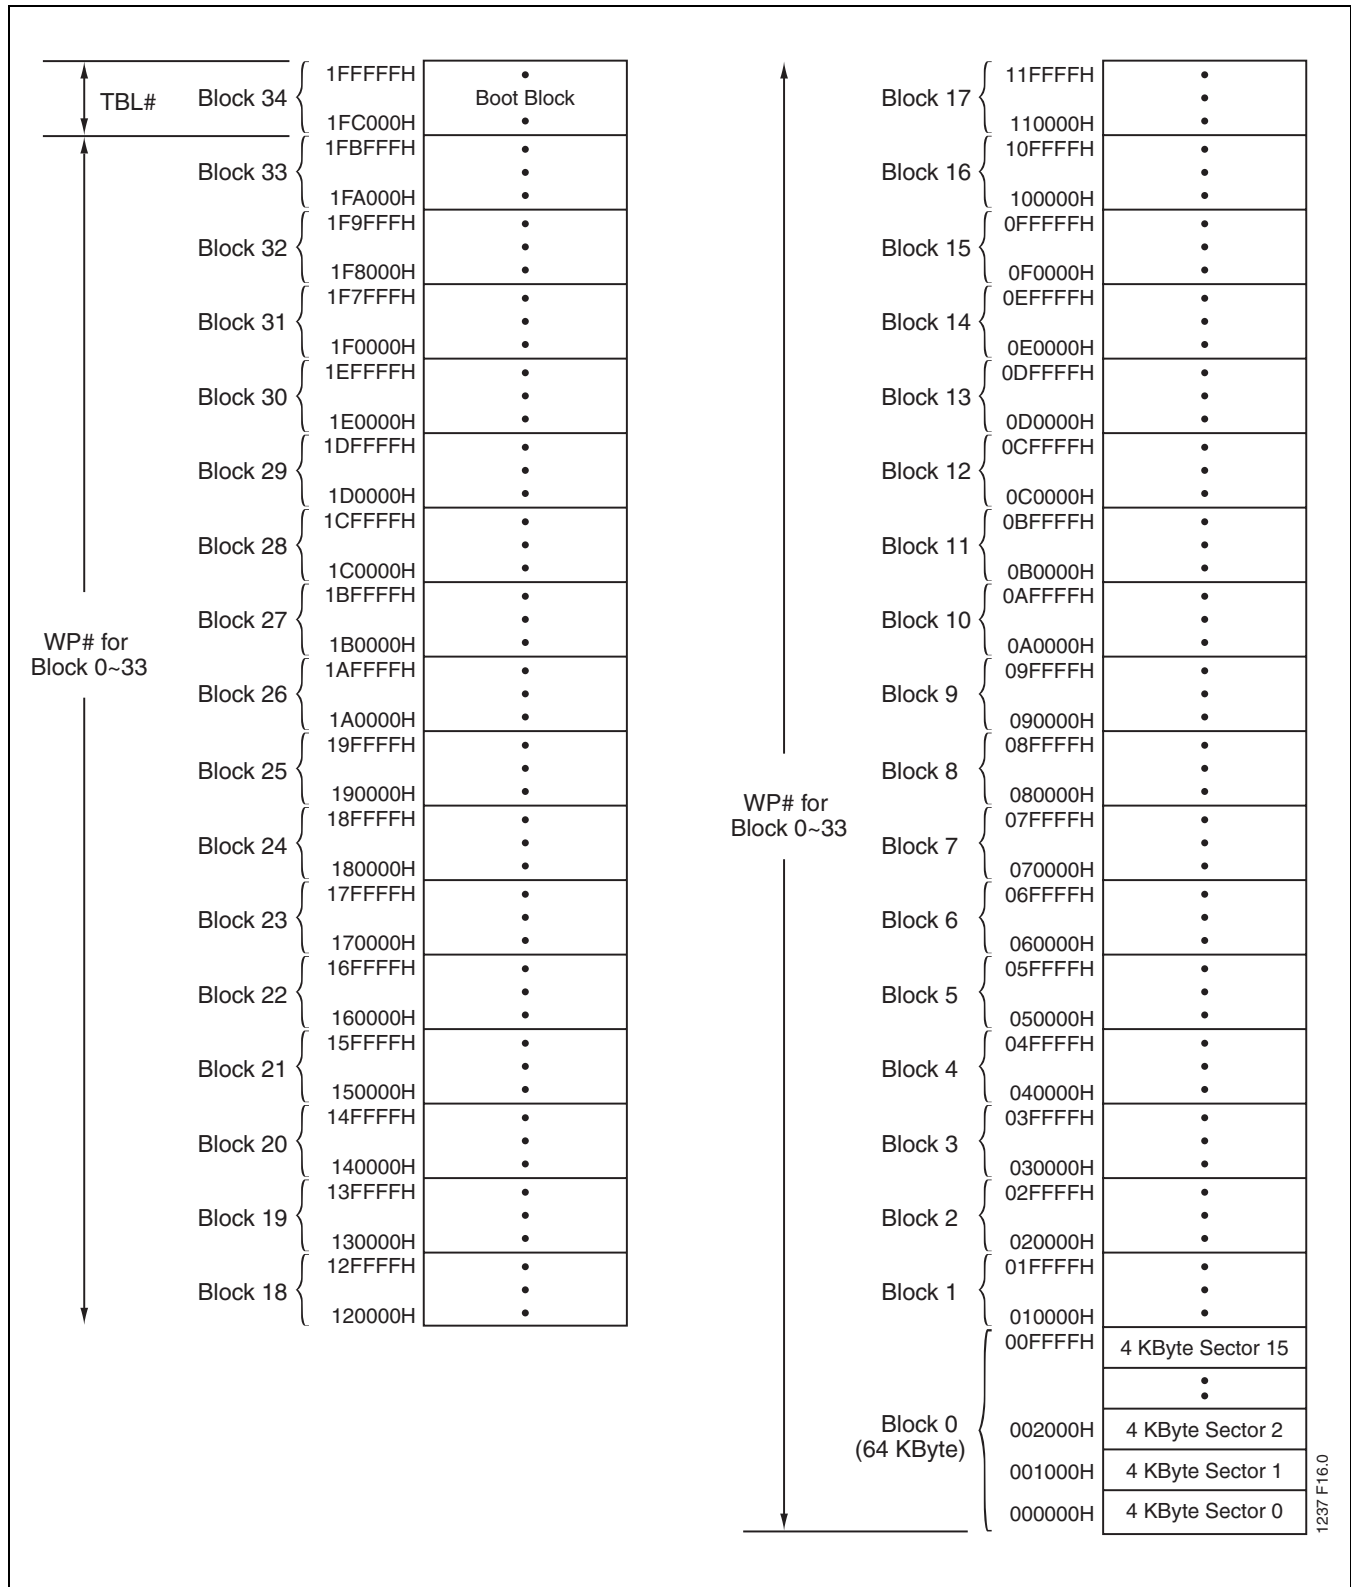

FIGURE 2: Device Memory Map for SST49LF016C
- FIGURE 2: Device Memory Map for SST49LF016C 8